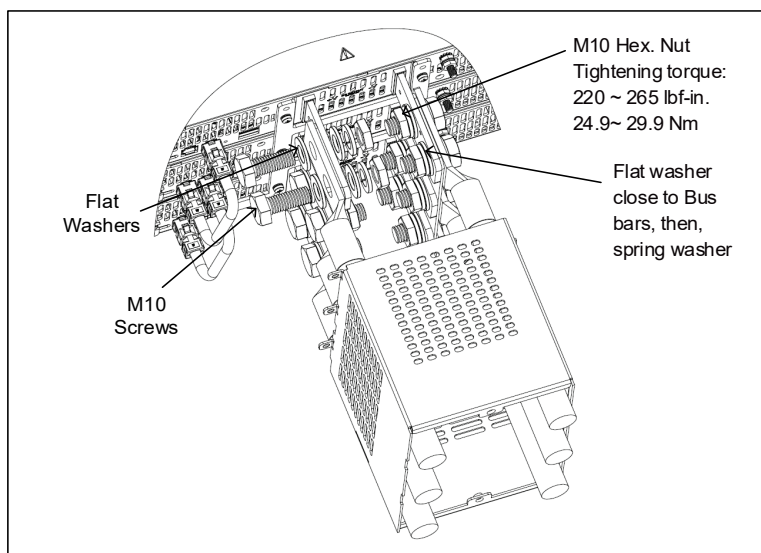

Figure 4-22: Assembly of 20V ÷ 40V Wires
3. Fix the wires to the Bus bars as shown in Figure 4-22 (15kW is shown, it applies to 10kW as well).